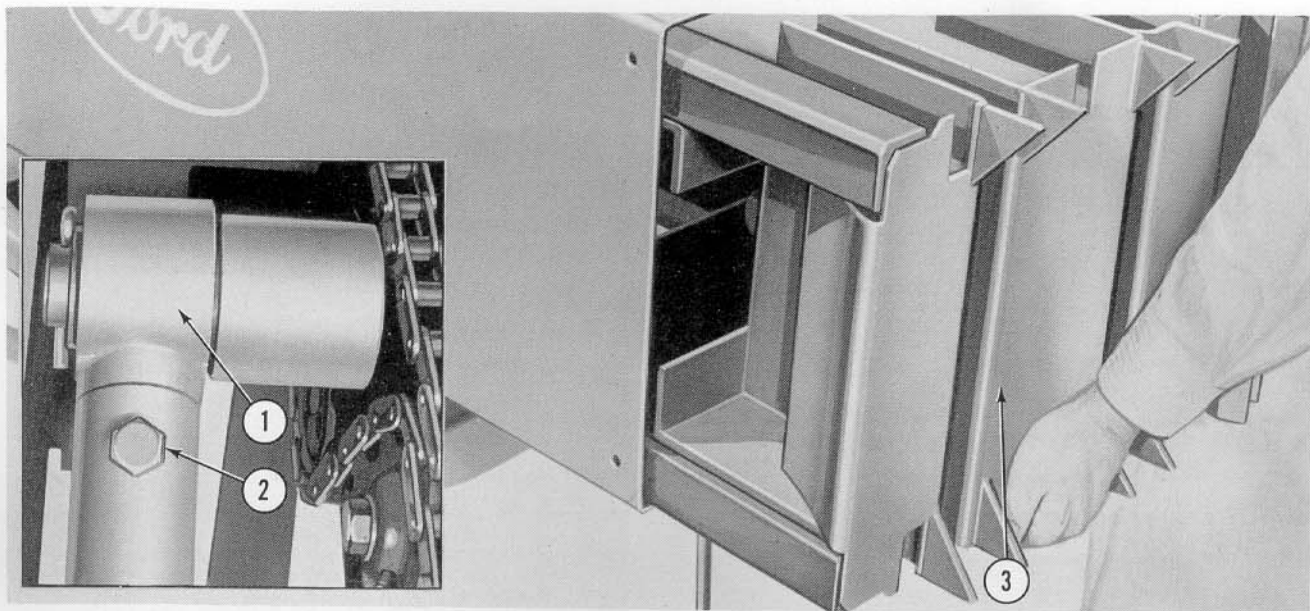

Figure 22
1. Remove the bolt, lockwasher and nut (2), Figure 22, which secures the connecting rod to the connecting rod bearing (1).
- NOTE:** The upper bale tension bar has been removed in Figure 22 for purposes of illustration. While complete removal of the upper bar is not required, it will facilitate removal of the plunger (3).
7. Rotate the baler flywheel until the plunger is at full stroke, then remove the plunger (3), Figure 22, from the rear of the bale chamber.